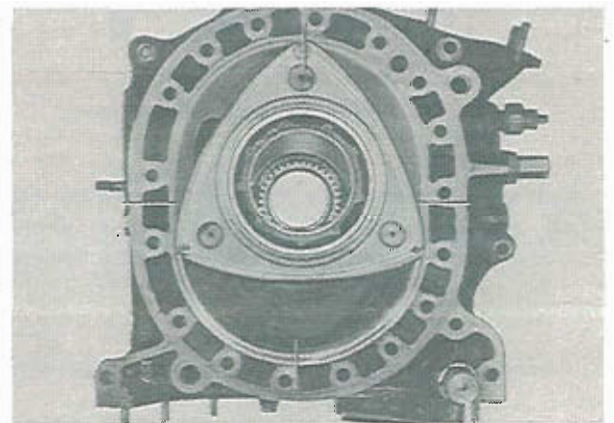

Fig. 1-86 Position of rotor apex
4. Mesh the internal gear and stationary gear so that one of the rotor apexes is set to any one of the four places shown in Fig. 1-86.